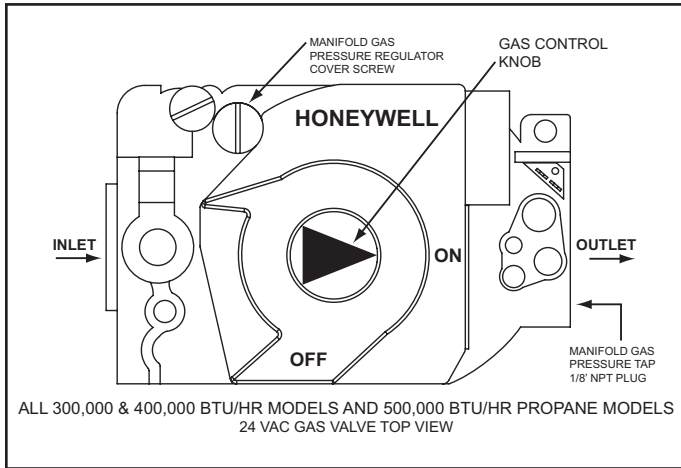
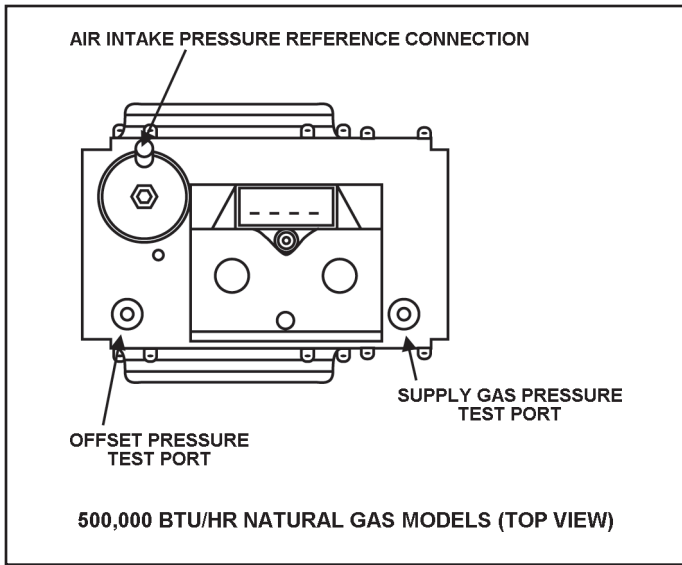

Figure 56
Figure 57
4. Push in the gas control knob slightly and turn to the "off" position, see Figure 56 on page 51.
5. Wait five (5) minutes for any residual gas to clear.
6. Connect one manometer (higher range) to an available test port on the supply gas line at the water heater. There is a 1/8" NPT Tee fitting and pipe nipple installed for the Low Gas Pressure switch on the inlet side of the 24 VAC Gas Valve with a 1/8" NPT plug for this purpose. For SUF 130 500 natural gas model, connect the manometer to the supply gas pressure test port, Fig 57 on page 52.
7. Connect one manometer (lower range) to the manifold gas pressure tap at the outlet of the 24 VAC Gas Valve, see Figure 56 on page 50 and Figure 57 on page 50 for location.
1. Push in the gas control knob slightly and turn to the "on" position, see Figure 56 on page 51.
- Remove the manifold gas pressure regulator cover screw, see Figure 56 on this page.
3. Push in the gas control knob slightly and turn to the “off” position, see Figure 56 on page 52 and Figure 57 on this page.